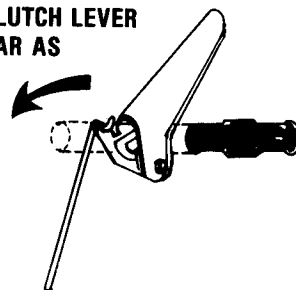

FIGURE 16A
1. The Traction Clutch Lever is already positioned on the handlebar and the traction clutch rod is in place in the handle. Check to be sure that the Traction Clutch Lever is free to fall down on the grip. See Figure 16A.
3. "Lock-In" the differential for adjustment procedures. Position the Traction Clutch Lever so that it is all the way forward (up). See Figure 16A. Tighten the traction clutch rod in the rod adapter with the setscrew. With Traction Clutch Lever down, clutch yoke should come within 1/16" of top of slot in frame. Adjust as required. Place Speed Selector in First. Tip machine forward on blower housing. Tighten the adjustment nut while turning the wheels until the wheels begin to drag. When wheels begin to drag the clutch lever should be engaged and released to align the linkage prior to adjustment. It may be necessary to repeat this procedure to obtain proper adjustment. Back off three (3) turns. See Figure 16B. Wheels should then turn easily.